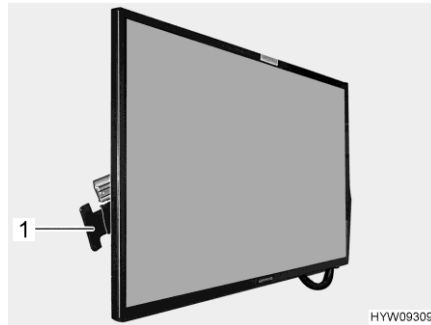

Fig. 96 Flat screen
- Press handle (Fig. 96,1) towards the flat screen and hold it there. The flat screen is unlocked.